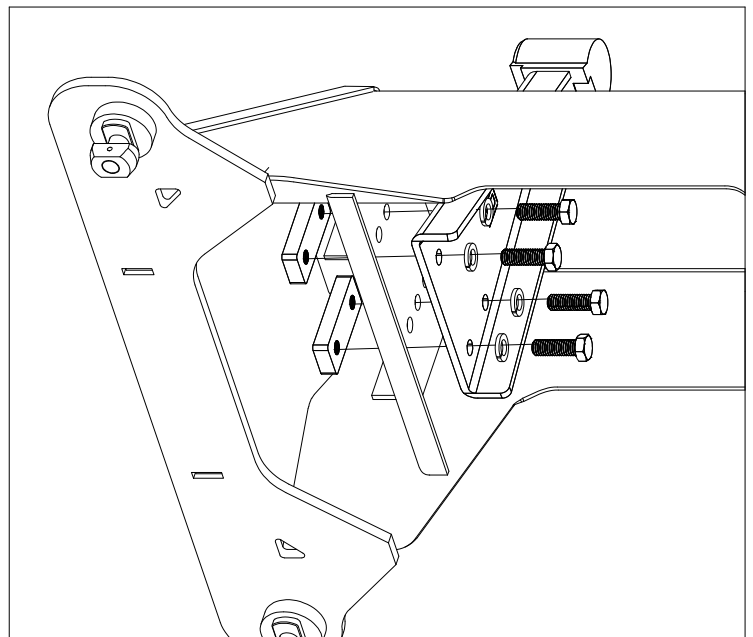

FIGURE A2: Passenger pivot arm mounting location.
2. Locate both pivot arms, the four threaded blocks, eight 1/2" cap screws, and eight 1/2" split lock washers. Place the lock washers over the cap screws. Align the flat side of the pivot arm flat against the bolt plate and install four 1/2" cap screws through the holes on the arm, holding the arm in place, as shown in Figure A2. Pass the threaded blocks under the bases side and align the block with each set of screws and start each screw, as shown in Figure A2. After all the screws are started through the arms, torque each bolt to 80 ft-lbs.